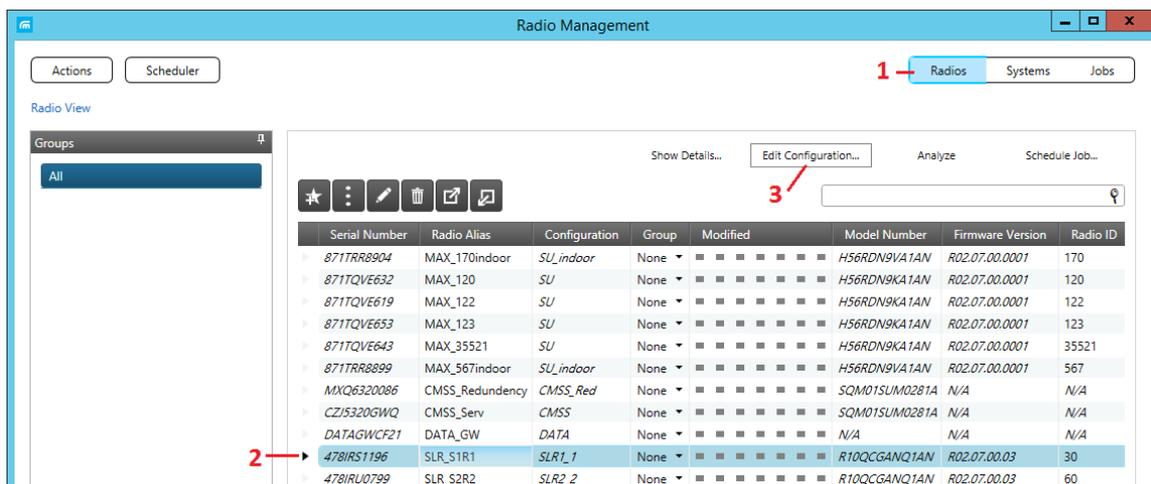

Figure 13: Opening the Capacity Max configuration on a repeater
1. Launch the Radio Management software. Click **Radios** (Figure 13, step 1).
2. In the right panel, click the arrow in front of an entry with the repeater configuration (Figure 13, step 2). Make sure that the whole line is selected.
3. Click the **Edit Configuration** button (Figure 13, step 3).